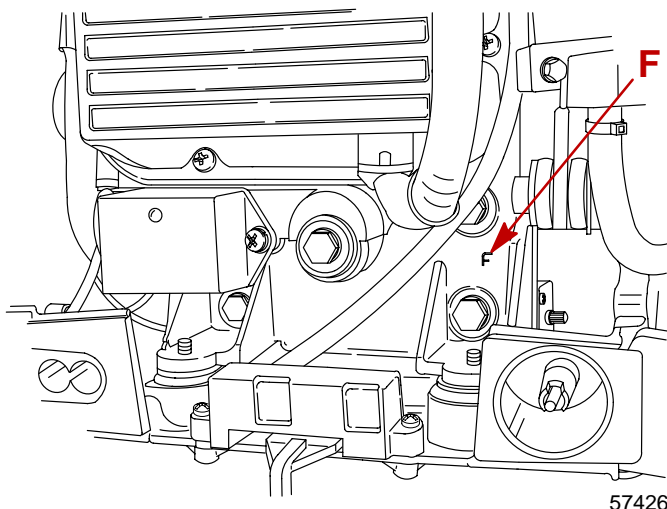

Figure 1.
1. Vent vapor separator to the atmosphere. Service Bulletin 87-7, page 1, item 2, High Speed Surge.
**NOTE:** The letter "F" or three centerpunch marks on the lower front of the fuel management system indicates the injector filters were removed. Figure 1 (22771).